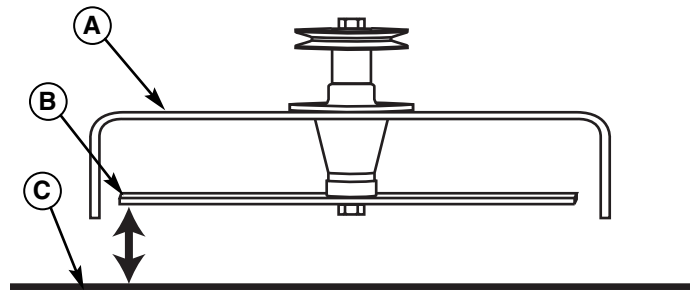

Figure 47. Measure Blade Tips to Ground
5. Measure the distance between the tips of the blade and the ground (Figures 47 & 48). If there is more than 1/8" (3mm) difference between the measurements on each side, proceed to step 6. If the difference is 1/8" (3mm) or less, proceed to Front To Back Leveling.